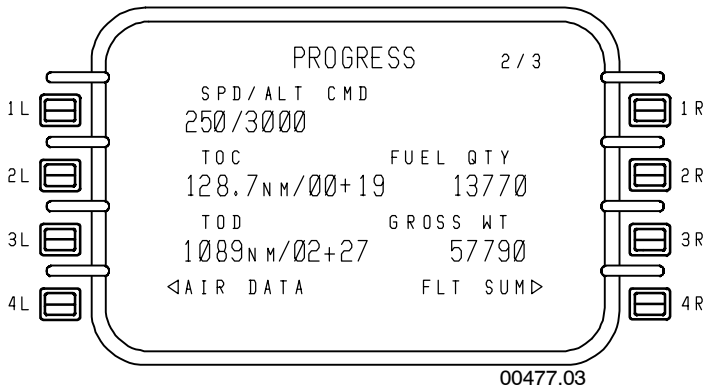

Figure 4–49
- **PROGRESS 2/3** – Figure 4–49 displays the following:
As the climb continues, intermediate altitude clearances can be entered using the altitude selector. The FMS commands the autopilot to climb to the selected altitude or the next altitude constraint, whichever is lowest. If altitude restrictions are associated with a waypoint, they can be entered on the CDU adjacent to the appropriate waypoint. The 18,000 feet at or above constraint on ZUN was entered in this fashion and is shown in Figure 4–50.